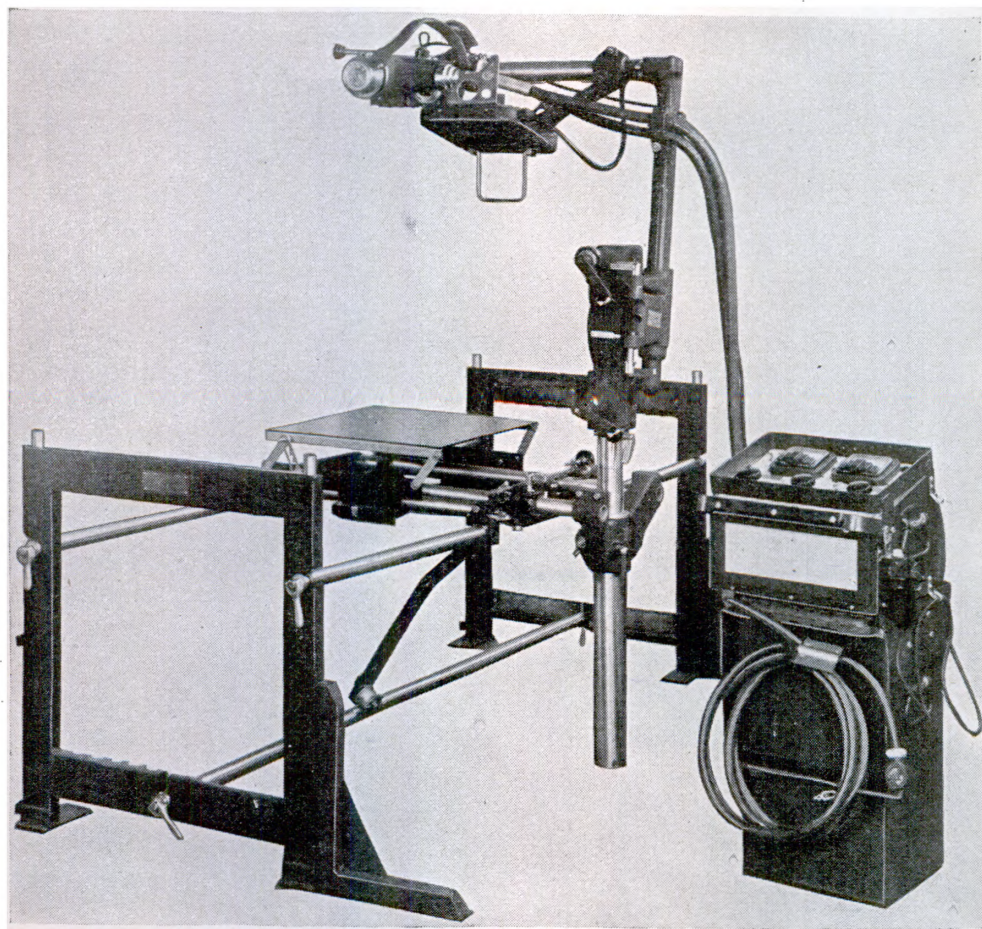

Figure 52. X-ray field unit table unit, horizontal radiographic position.
(5) For horizontal roentgenography (fig. 52), proceed as follows: